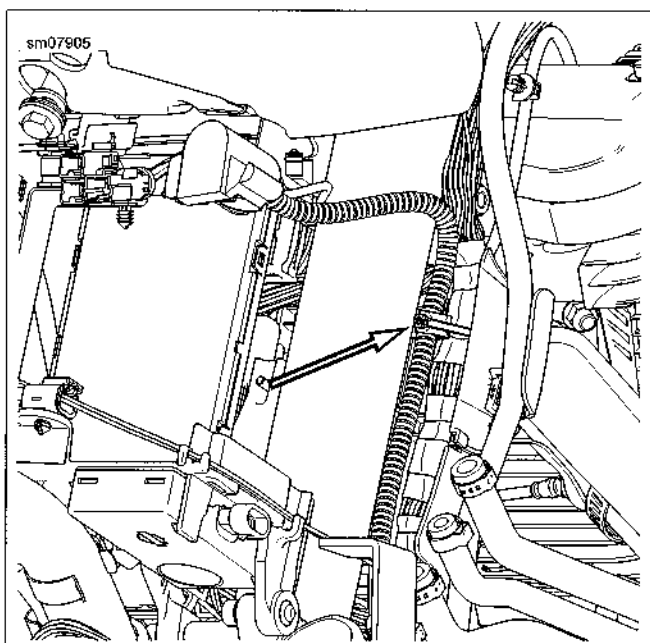

Figure 6-16. Cable Strap around Positive Battery Cable and Wire Harness
13. See Figure 6-16. Remove cable strap securing positive battery cable to main wire harness.